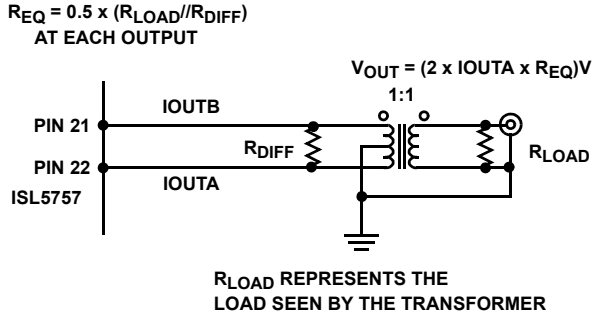
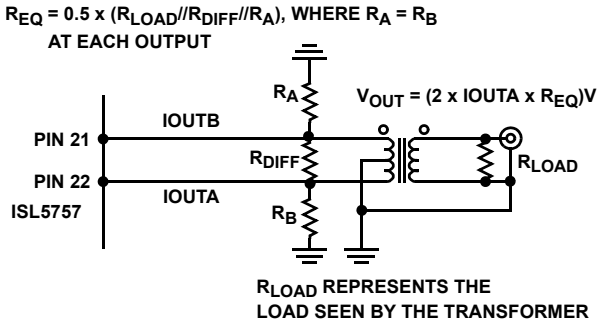

FIGURE 13. OUTPUT LOADING FOR DATASHEET MEASUREMENTS
FIGURE 14. ALTERNATIVE OUTPUT LOADING
**Typical Performance** (+3.3V Supply, Using Figure 13 with  $R_{DIFF} = 100\Omega$  and  $R_{LOAD} = 50\Omega$ )
**Typical Performance** (+3.3V Supply, Using Figure 13 with  $R_{DIFF} = 100\Omega$  and  $R_{LOAD} = 50\Omega$ ) (Continued)
IOUTA and IOUTB can be used in a differential-to-single-ended arrangement to achieve better harmonic rejection. With RDIFF = 50Ω and RLOAD = 50Ω, the circuit in Figure 13 will provide a 500mV (-2.5dBm) signal at the output of the transformer if the full scale output current of the DAC is set to 20mA (used for the electrical specifications table). Values of RDIFF = 100Ω and RLOAD = 50Ω were used for the typical performance curves. The center tap in Figure 13 must be grounded.
In the circuit in Figure 14, the user is left with the option to ground or float the center tap. The DC voltage that will exist at either IOUTA or IOUTB if the center tap is floating is IOUTDC × (RA/RB) V because RDIFF is DC shorted by the transformer. If the center tap is grounded, the DC voltage is 0V. Recommended values for the circuit in Figure 14 are RA = RB = 50Ω, RDIFF = 100Ω, assuming RLOAD = 50Ω. The performance of Figure 13 and Figure 14 is basically the same, however leaving the center tap of Figure 14 floating allows the circuit to find a more balanced virtual ground, theoretically improving the even order harmonic rejection, but likely reducing the signal swing available due to the output voltage compliance range limitations.